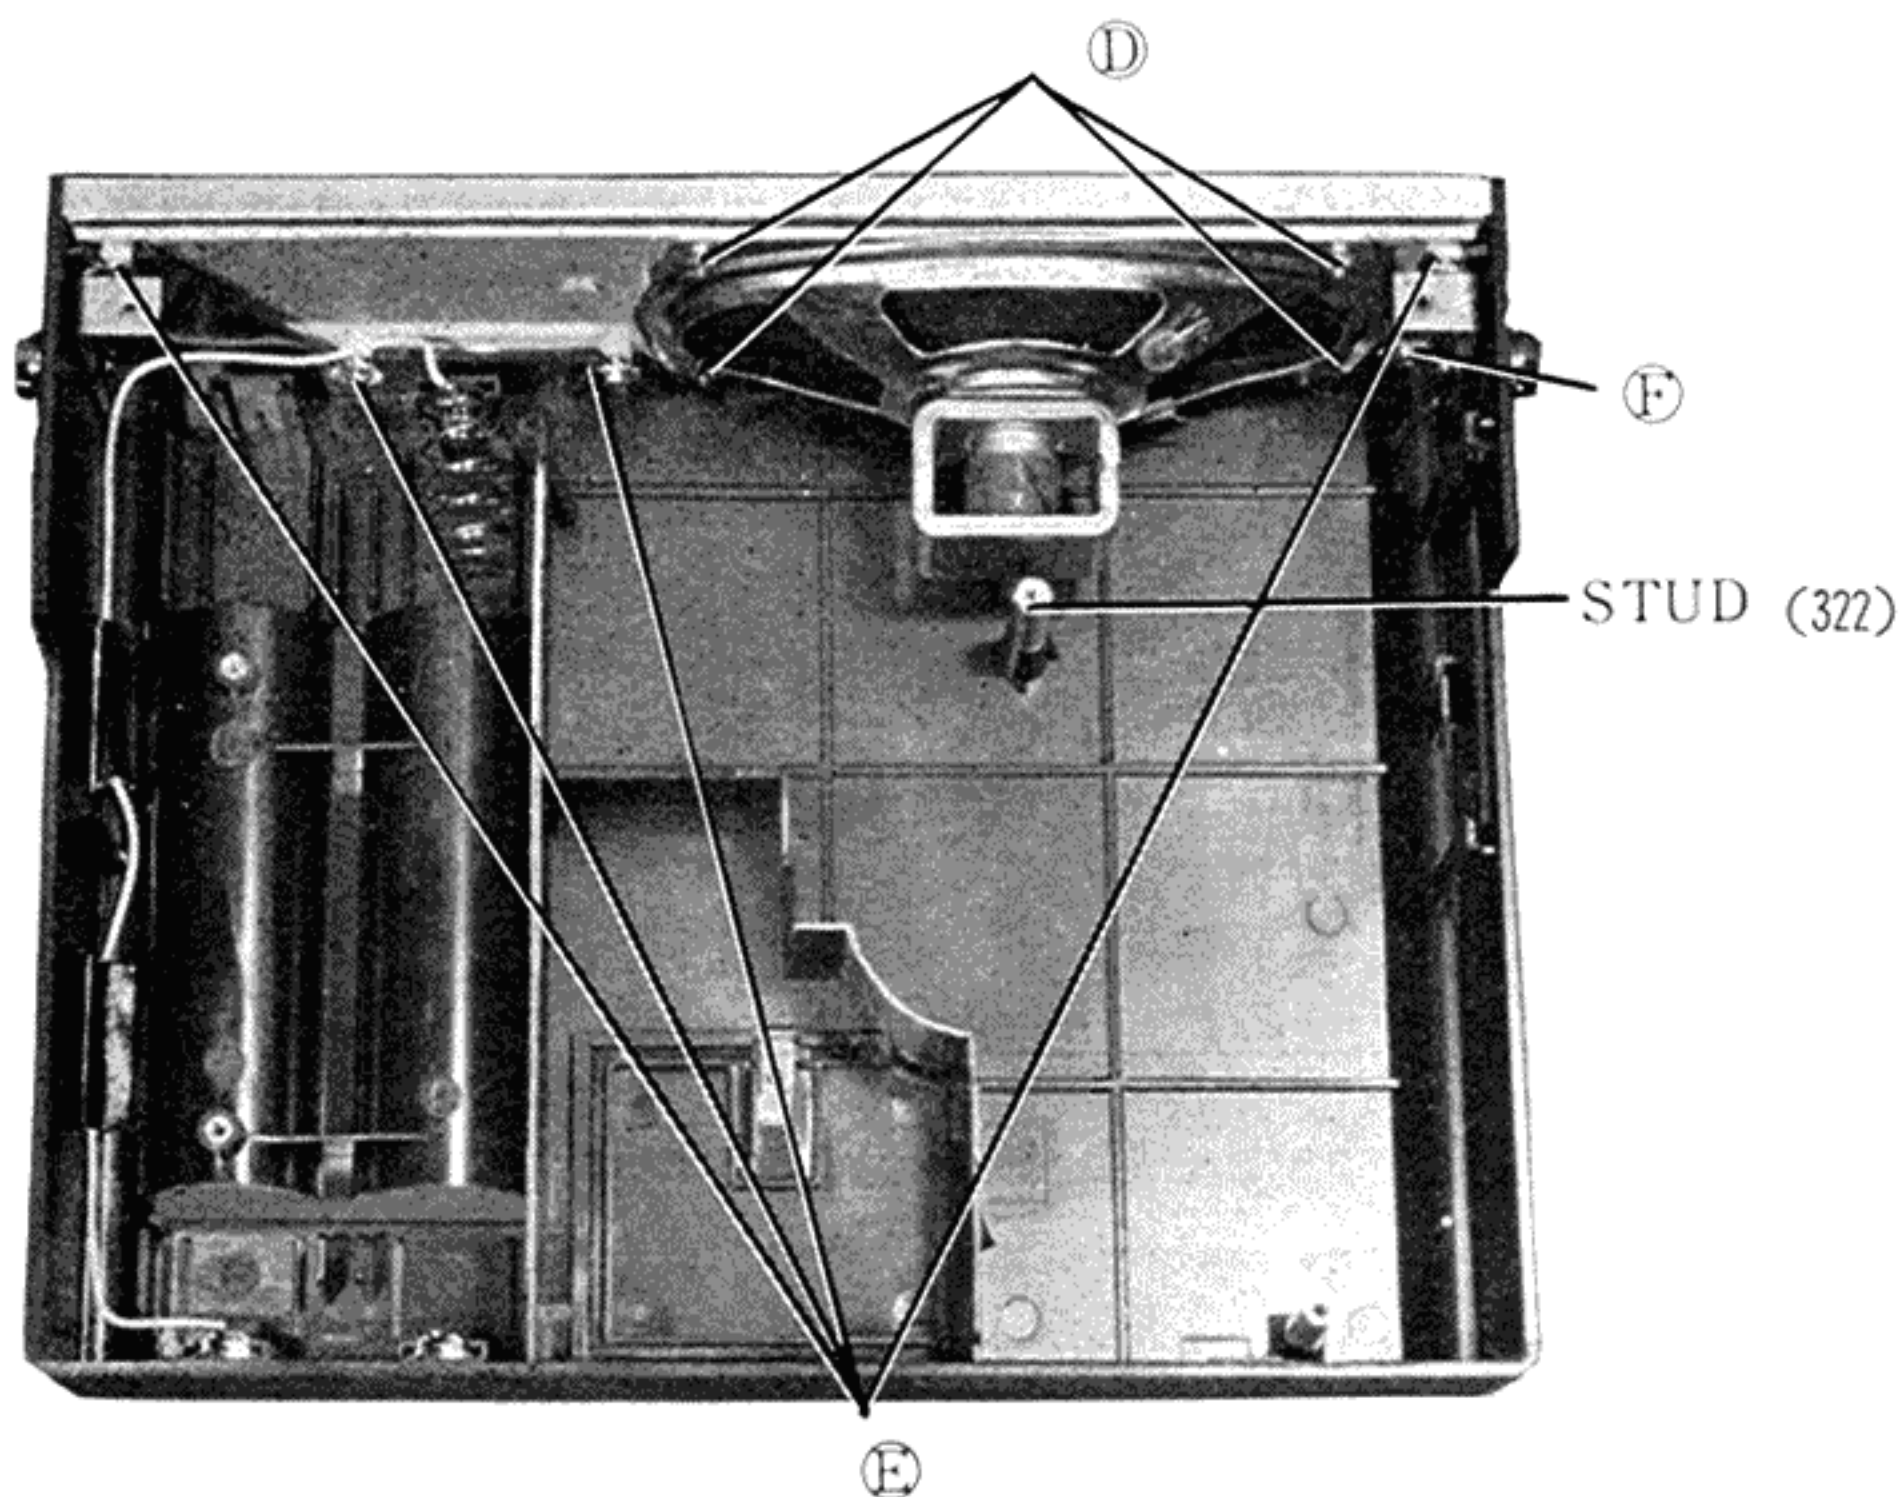

Fig. 3
- (1) After taking off Top Panel and Body Case, remove Mechanical Body
- (2) Remove four fitting screws(C).
4. Removal Procedure of Speaker Grille and Speaker. (Fig. 3)